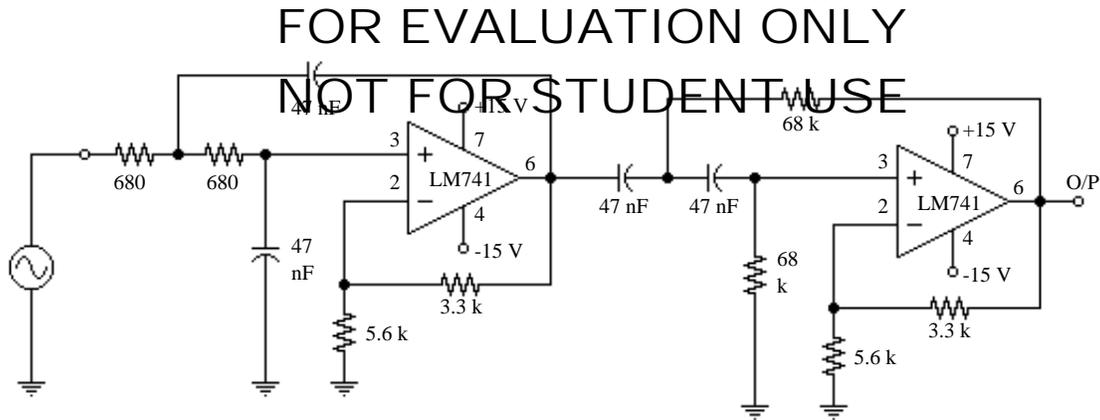

Figure 0-6. Band Pass Circuit
7. Cascade the low pass and high pass filter circuits together as shown in Figure 0-6.
8. Apply appropriate voltages to the input of the circuit of Figure 0-6 so as to complete the measurements of Table 0-4. Be sure the op amp output is not overdriven.